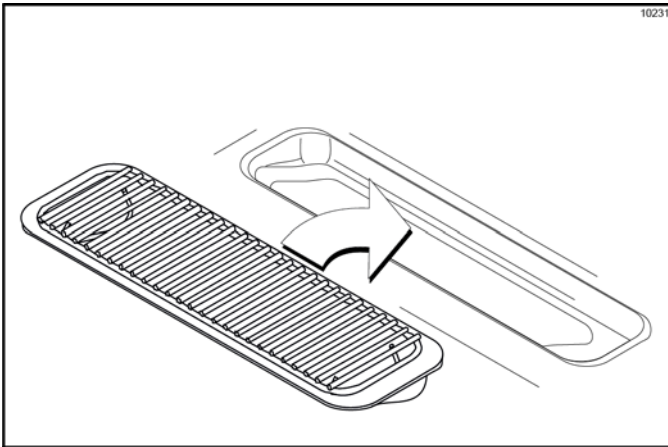

Figure 6-34
18. Install the front drip tray and splash shield under the door spouts. (See Figure 6-34.)